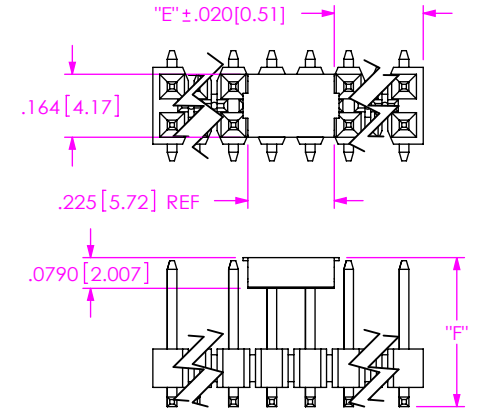

FIG 5
- * **FOR EXISTING CUSTOMERS ONLY** (USE LMP-01, SEE FIG 5, SHT 2) (NOT RECOMMENDED WITH -T OR -TM PLATING) (LEAD STYLES -01 & -04 ONLY) (AVAILABLE ON POS 04 THRU 36) (AVAILABLE ON POS 02 AND 03 WITH -TR OPTION ONLY, SEE NOTE 5)